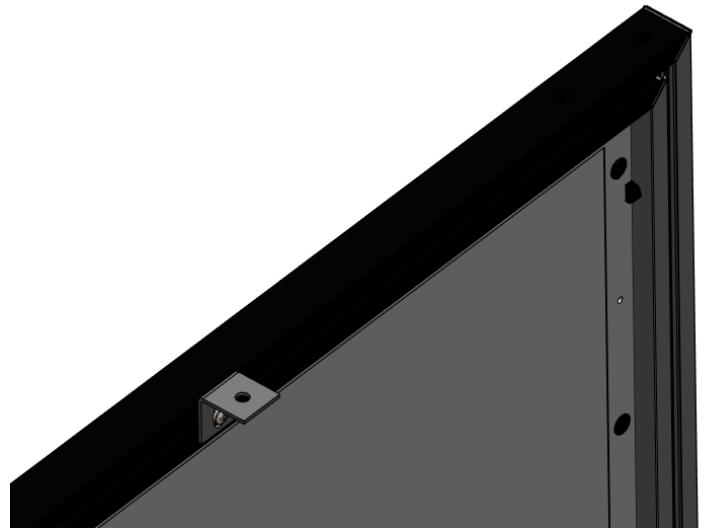

Figure 14: Installing Frame/Screen Assembly – Rear View, Close-up
4. Install the frame/screen assembly into the aperture using the attached mounting brackets and appropriate fasteners (see Figure 14).